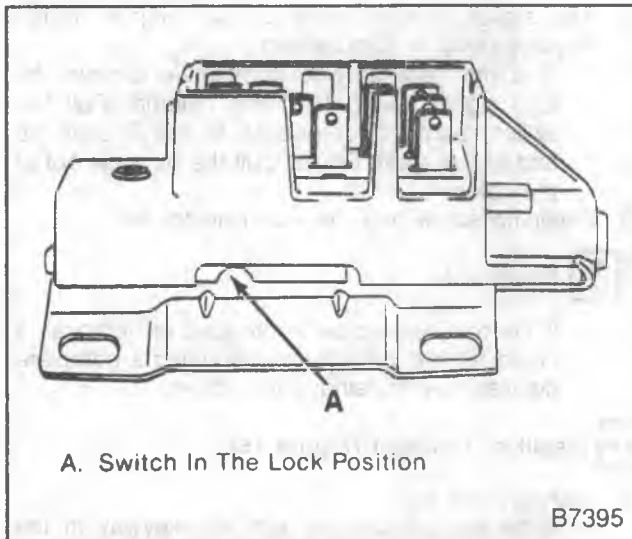

Figure 16—Ignition Switch Assembly
Install or Connect (Figure 16)
- Put the ignition switch in the "LOCK" position (figure 16).